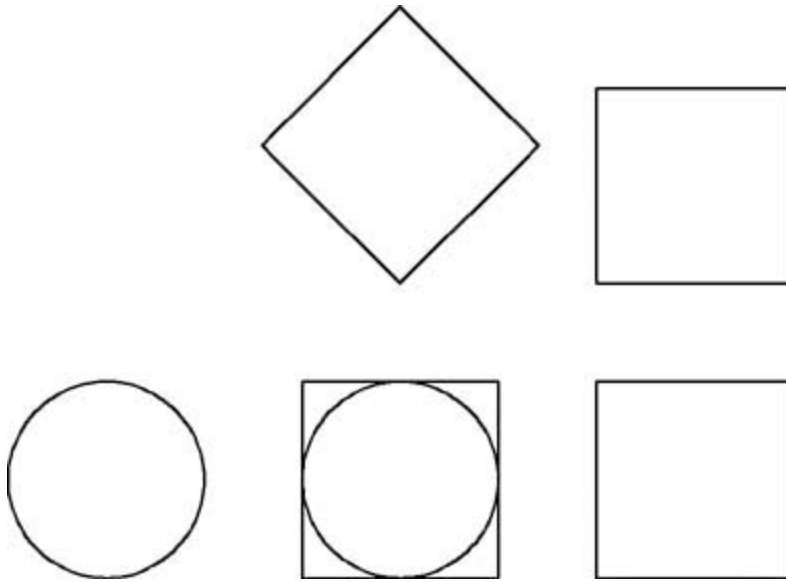

Figure 4-14
- 5 Press **<Enter>** to accept the default diameter value. AutoCAD places the circle and ends the **CIRCLE** command. Your drawing should resemble Figure 4-14.